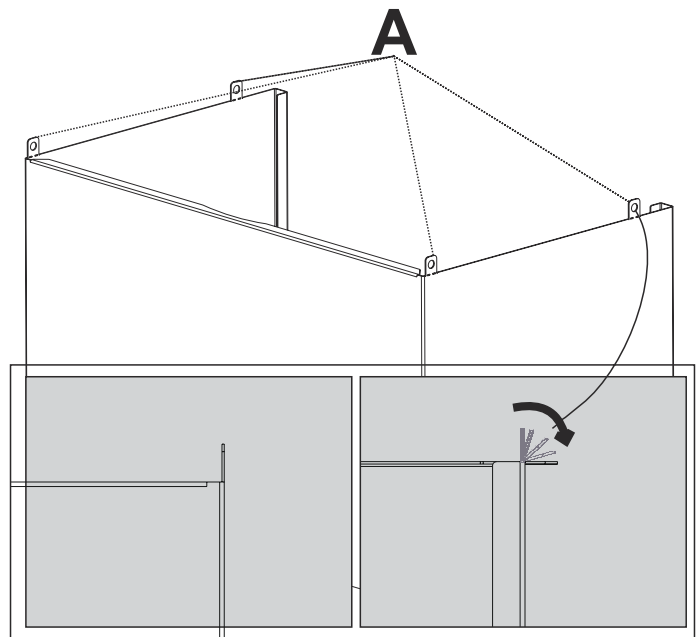

Fig. 20
6. → Pull the interior flue through the exterior flue. Interior flue has 4 mounting parts on it. Bend these interior parts outwards 90° (Fig. 20).